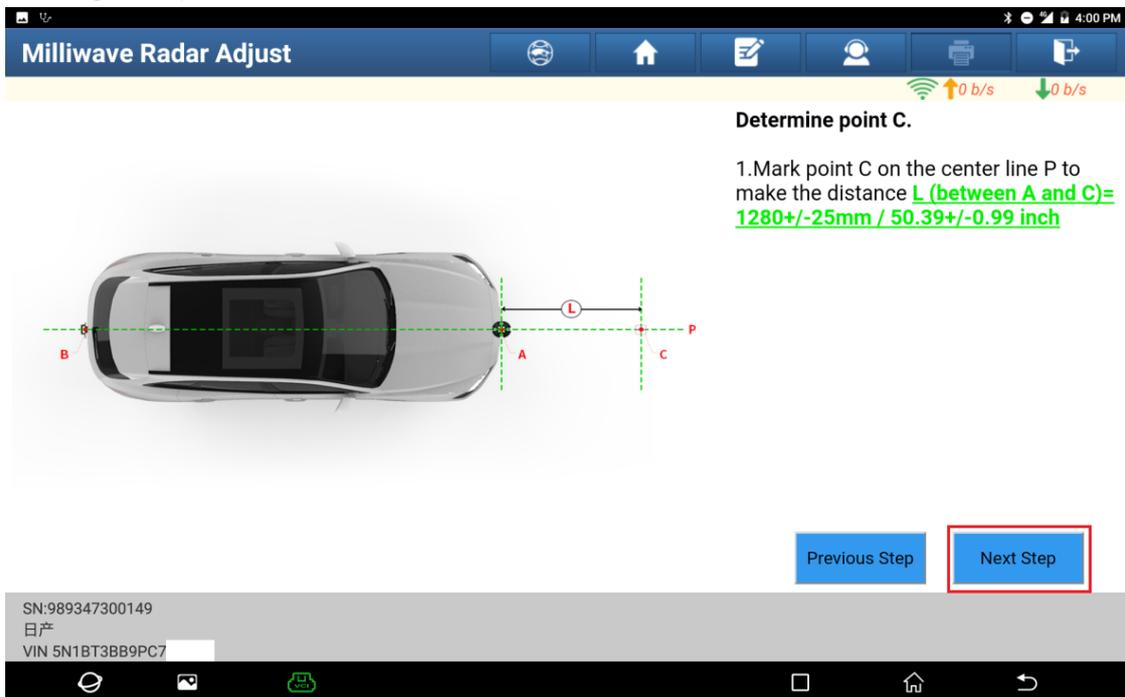

Figure 9
9. Click [Next Step]. Confirm the mark point C on the center line (as shown in Figure 9).